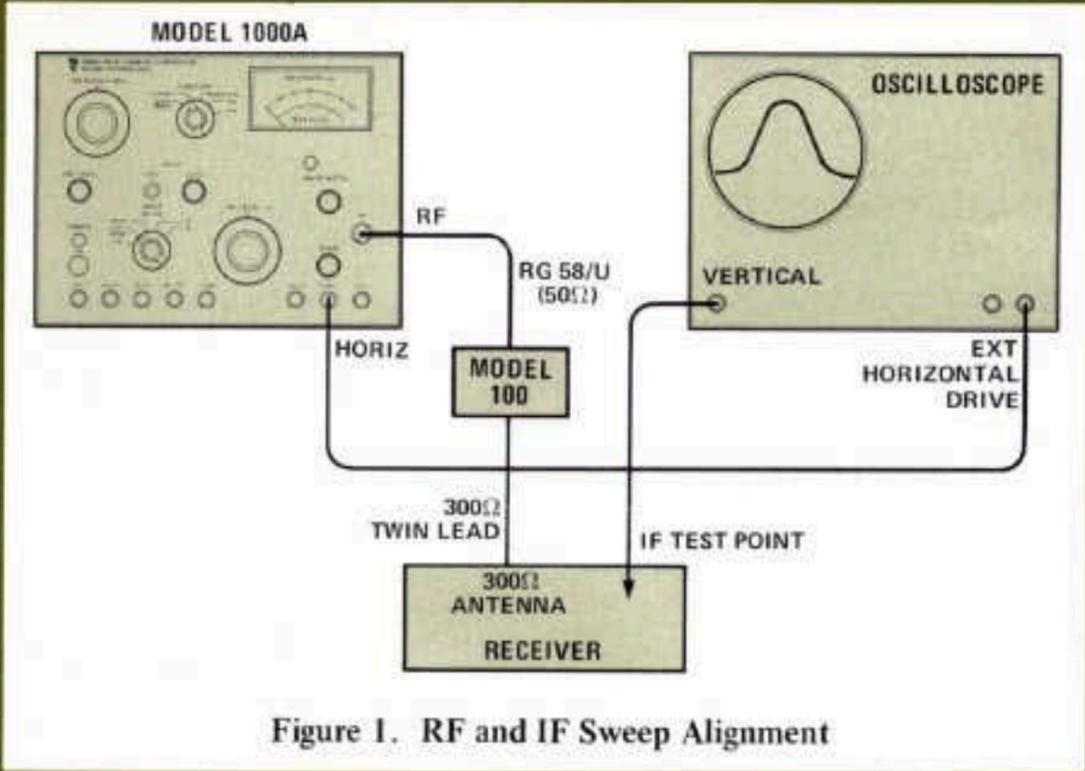
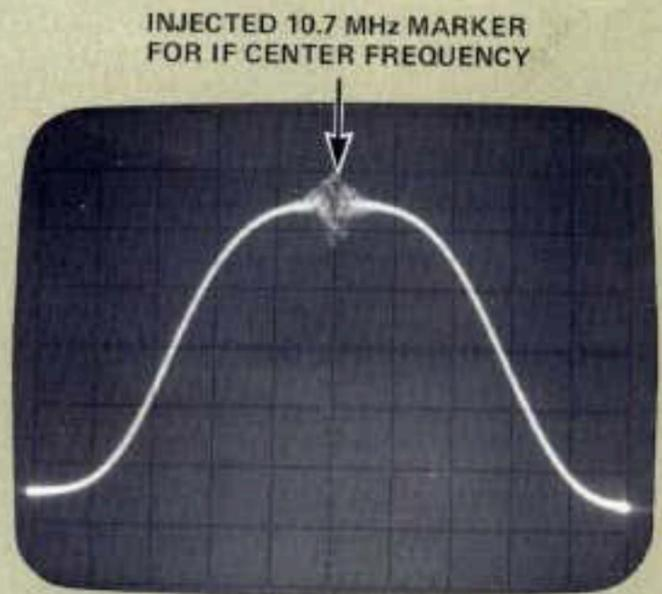

Figure 1. RF and IF Sweep Alignment
Figure 4. RF and IF Response
Connect the 1000A and a scope to the receiver as in Figure 1 and set the receiver and the 1000A controls as described in the Alignment Chart, Step 1. Adjust 1000A frequency dial to locate IF sweep pattern in the center of the scope trace. Adjust PHASE control to make forward and reverse traces on the scope coincide. A typical response pattern is shown in Figure 4. The pattern will be inverted in some receivers. Adjust the IF circuits for maximum amplitude and symmetry of the pattern. Vary 1000A RF LEVEL up and down to see if the pattern maintains its shape and make a compromise adjustment if necessary.
1. If the IF strip will not come into alignment or if for some reason you suspect the IF frequency is too far away from 10.7 MHz (greater than 0.5 MHz), you can inject a signal from a 10.7 MHz crystal oscillator into the IF strip and obtain a beat frequency marker as shown in Figure 4. Inject the
Connect equipment as in Figure 1, and set the receiver and 1000A controls as described in the Alignment Chart, Step 4. With the receiver and generator set near 90 MHz, adjust all the rf (excluding local oscillator) coils for maximum amplitude and symmetry of the scope display. If maximum amplitude does not coincide with optimum symmetry it may be necessary to go back and touch up the IF circuits.